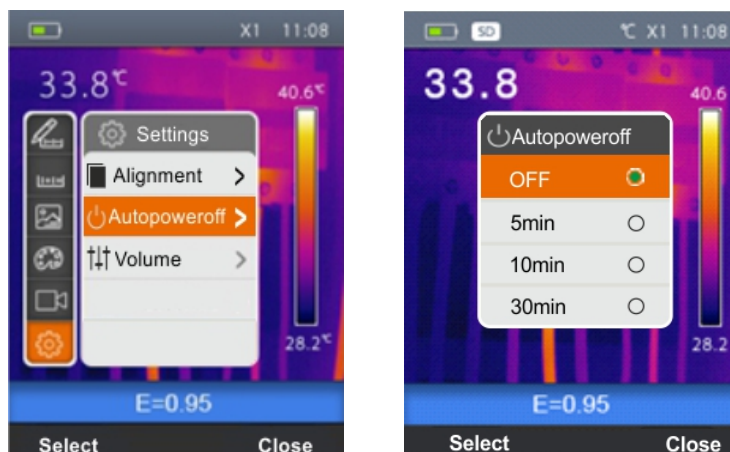

Fig. 14: Setting the alignment distance
1. Select the item “Auto power-off” using the keys \oplus or \ominus and press the key \equiv . The screen Fig. 14 – Right side is shown on the display